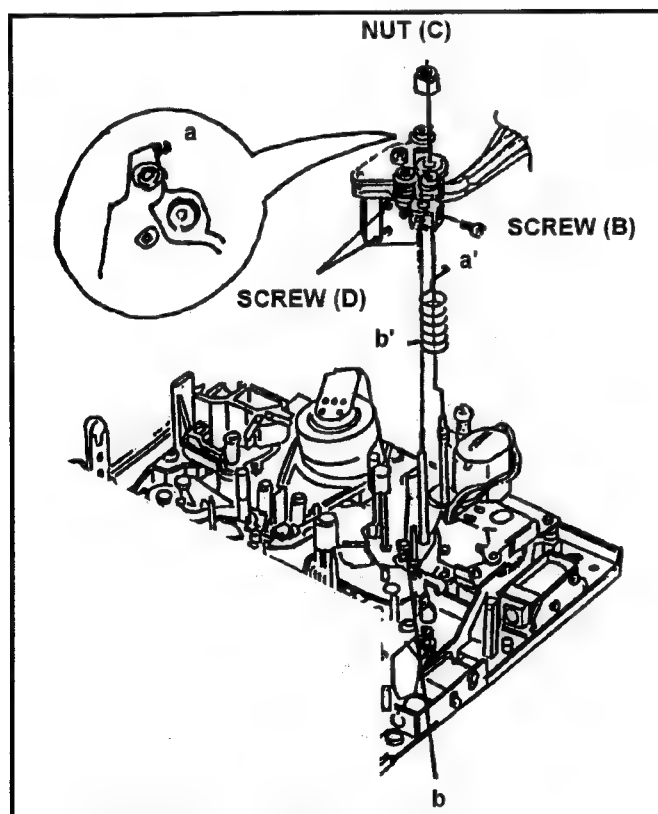

Fig. 8-2-3 Removal of A/C Head Unit
3. Loosen the **hex. screw (B)** and remove the **Nut (C)**. Pick up the Head Height Adjustment Spring and then remove the A/C Head Unit as shown in Figure 8-2-3.
5. Remove 2 screws (D) to remove the Shield Cover as shown in Figure 8-2-3.